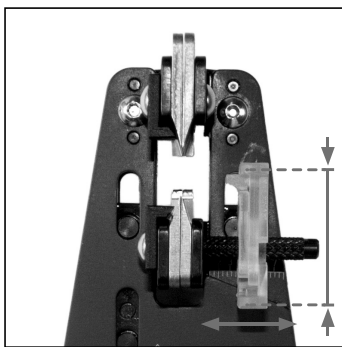

Fig. 2
1. By compressing the length stop (9), move it to the desired strip length indicated on scale (12)
3. Insert the cable against the length stop (9, Fig. 2).